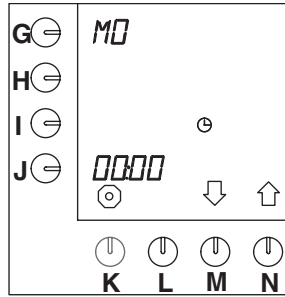

Fig. 42 Current day and time
- Press selection key (N.)↑ until fig.42 (Current day and time) appears on the display.
- The hours setting beside the programming key starts flashing (fig. 42).